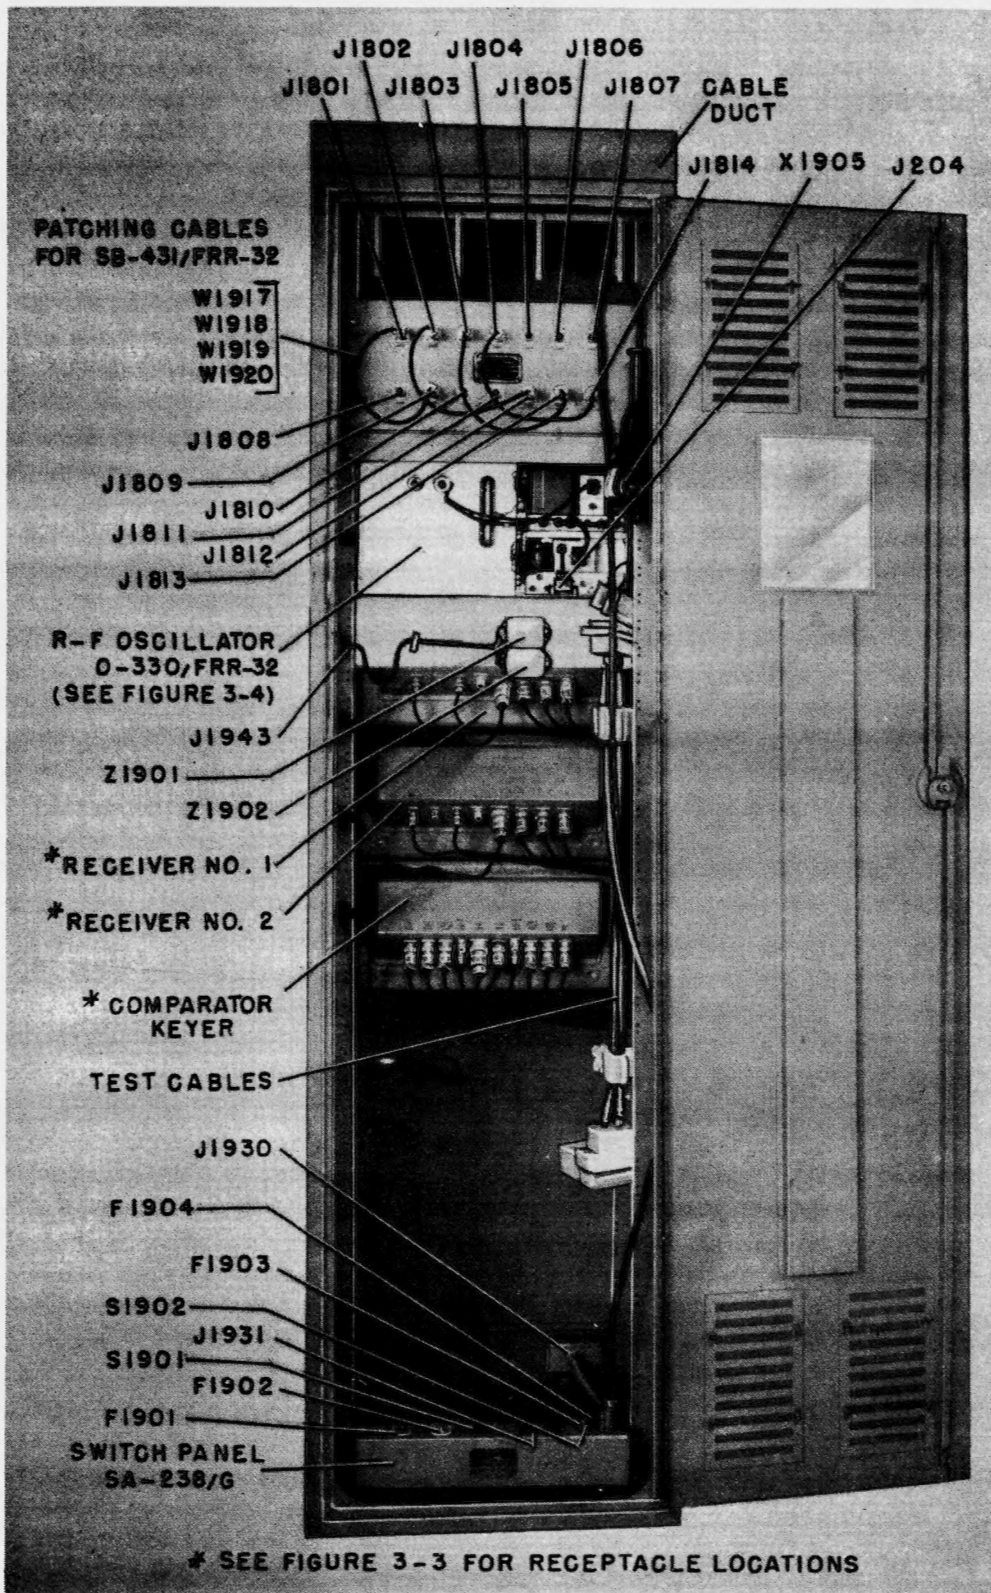

Figure 7-1. Cabinet, Rear View, Showing Component Location
(1) R-F OSCILLATOR LIGHTS. - Check that the POWER light is glowing; after required warm-up, check that the OUTER OVEN light is blinking ON for 5 seconds and OFF for 30 seconds approximately, and that the INNER OVEN light is blinking ON for 90 seconds and OFF for 90 seconds approximately. If these lights are glowing as described proceed to step b of this procedure. If none of these lamps are lit check the power input cable connection. If this does not correct the condition, replace fuses F101 and F102 located at the rear of the R-F Oscillator unit, as shown in figure 7-1. If the condition still exists see sub-paragraph 4b(1) of this section.
a. CABINET. - (None of the pilot lights or dial lights glowing and all POWER switches in ON position, as per paragraph 3a.) After fuses (F1901 and F1902) have been eliminated as a possible source of trouble, throw the trouble lamp switch, S1902, to ON. If the trouble lamp glows, a-c line voltage is present at the input to the cabinet and the trouble lies between the fuses and the input to the separate units. See step (2) below and follow the procedure described.
If the trouble lamp does not light, then there is trouble in the input a-c line to the cabinet. Follow the procedure described in step (1) which follows. Refer to figure 7-1 for location of parts in this procedure and to figure 7-33 for the schematic diagram.
(1) Remove the screws which hold the top cover of Switch Panel SA-238/G and pull the top cover up as far as the connecting leads will allow. Then check by use of a voltmeter, similar to item 1 of table 7-1, for presence of a-c line voltage between one terminal of F1901 and one terminal of F1902. If no reading is obtained make certain that both leads of the voltmeter are connected to the terminals of the fuses that are connected to the conductors of the input cable. If no reading is obtained at this point, there is trouble in the power cable which connects to the equipment or the a-c line voltage source. If a reading is obtained on the side of the fuses which are connected to the a-c input cable and not on the other, then either a fuse or its holder is at fault. Check the continuity of these parts and replace the one at fault.
(2) Since the trouble lamp lights, a-c line voltage is being applied to the equipment but is being interrupted before it gets to the various units. In this case the first step toward locating the trouble is to check for a-c line voltage at the convenience outlet J1903. If a-c line voltage is not present here, trouble lies in the wiring between F1901 or F1902 and S1901. If a-c line voltage is present, then the trouble lies in the main power switch, S1901, or the wiring to the receptacles on the raceway at the side of the rear of the cabinet, to which the power connectors of the various units are attached. In either case, remove the screws which hold the top cover of Switch Panel SA-238/G and pull the cover up as far as the connecting leads will permit. Check for presence of a-c line voltage between the contacts on both sides of S1901 (make certain that S1901 is in the ON position). If indication is given on the input side but not on the output side, replace the switch. If indication is given on both sides, turn the power off and make a continuity check of the wiring from the switch (S1901) to the output receptacles on the raceway.
remove the R-F Oscillator power cord from the receptacle (which mates with J204, see figure 7-1) on the back of the R-F Oscillator filter assembly and check for presence of a-c line voltage at the receptacle. If voltage is not present at this point the trouble lies in the associated filter assembly or its connection or cable to receptacle J1943. In which case, remove the power input connector of the filter assembly and check for a-c line voltage at J1943. If no line voltage is present, make a check of the cabinet wiring as described in paragraph 4a. If line voltage is present at J1943, remove the power cord of the R-F Oscillator filter assembly and make a continuity check of the power cord, filters Z1901 and Z1902 and the leads to the receptacle which mates with J204. If the filters are not continuous, emergency operation may be accomplished by switching the receivers to local oscillator operation or by bypassing the filters with a jumper cable, otherwise replace the defective filter. To bypass Z1901 and Z1902 connect J204 to J1943 direct.
In the event that relay S301 is malfunctioning, the inner oven will continue to heat until safety switch S302 opens up at 80°C (176°F). At this temperature, the INNER OVEN lamp will blink erratically at shorter intervals than the usual 90 seconds as in normal operation. If such is the case, check the thermometer on switch S301 in the rear of the R-F Oscillator. See figure 7-1. Replace switch S701 if the thermometer reads well over 70°C (158°F).